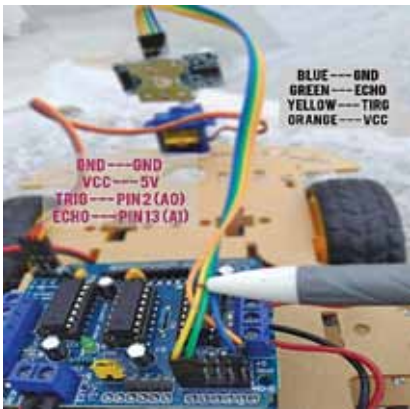

Fig. 11: Sensor connections
Step 4. *Preparing the ultrasonic sensor: (Fig. 11: Sensor connections)*